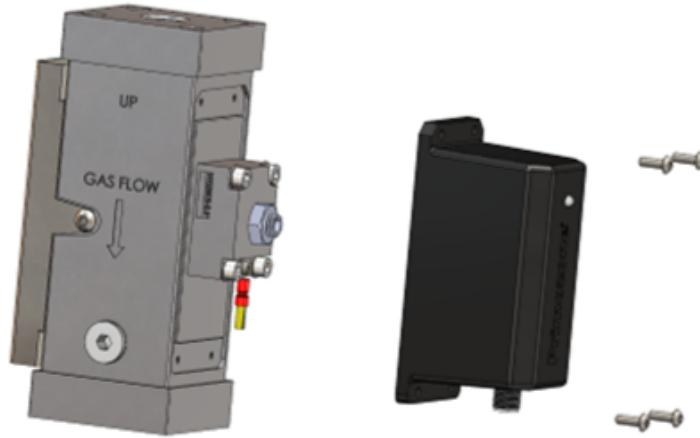

Figure 9 | Removing the screws for the plastic sensor housing.
1. Use an Allen wrench to remove the screws for the plastic housing. See *Figure 9* ▶ 15.